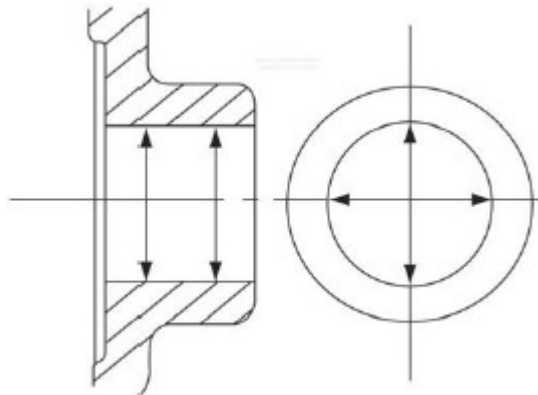

Figure 109.
6. Measure the outside diameter of the piston pin in three places and at 90° (Figure 109). See the *Mechanical Specifications Chart*. Record the measurements.